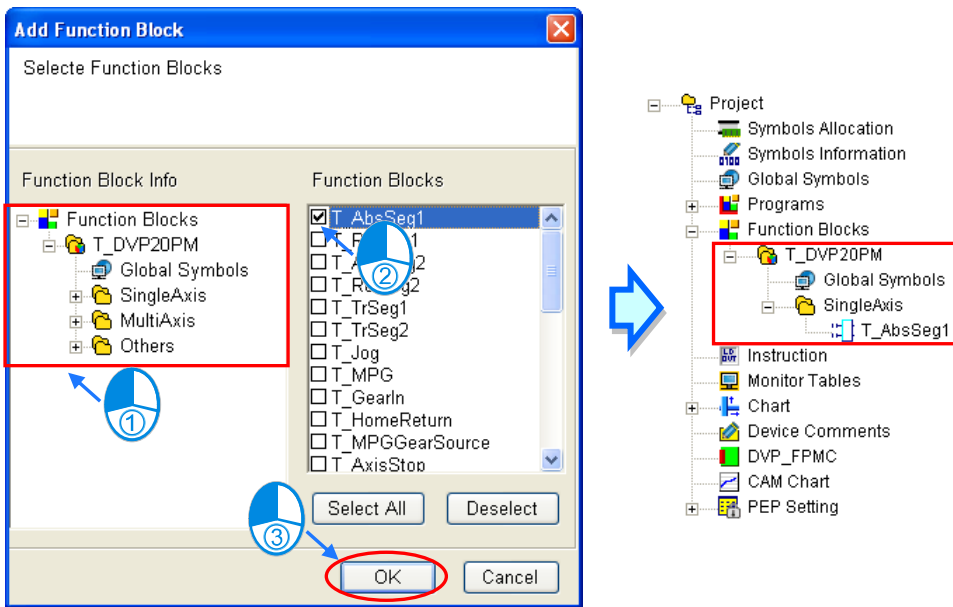

Figure 13-22 Selecting function blocks which need to be added
- (4) In the **Add Function Block window**, the users have to select a function block type in the **Function Block Info** section, and select function block definitions in the **Function Blocks** section. If the users click **Select All**, all the function block definitions in the **Function Blocks** section will be selected. If the users click **Deselect**, all the function block definitions in the **Function Blocks** section will be unselected. Finally, the users have to click **OK**. Please see figure 13-22.